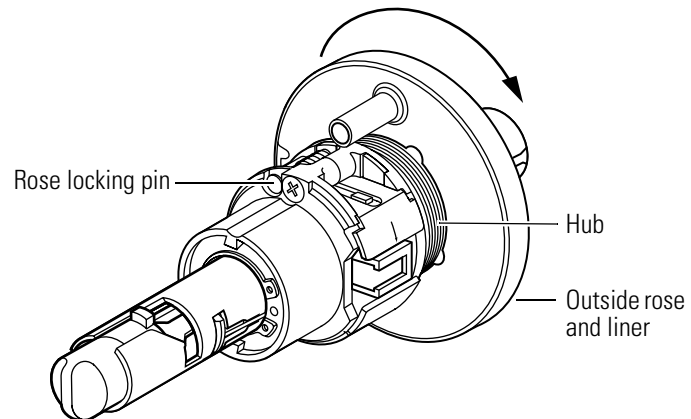

Figure 3.6 Removing the outside rose
3. Retract the rose locking pin, and rotate the rose and liner assembly until it is free from the hub. See Figure 3.6.